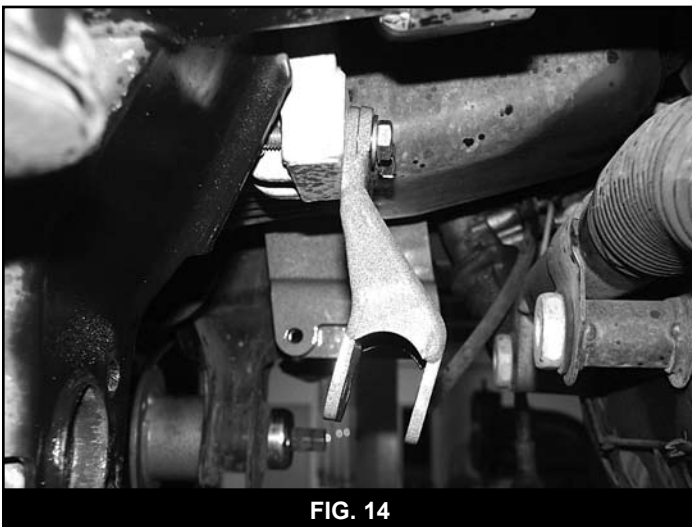

FIG. 14
33. Install the provided passenger's side differential drop bracket (01234) to the original frame mount with two  $\frac{1}{2}$ " x 2-3/4" bolts, nuts and  $\frac{1}{2}$ " SAE washers (BP #617). Leave hardware loose (Fig 14).